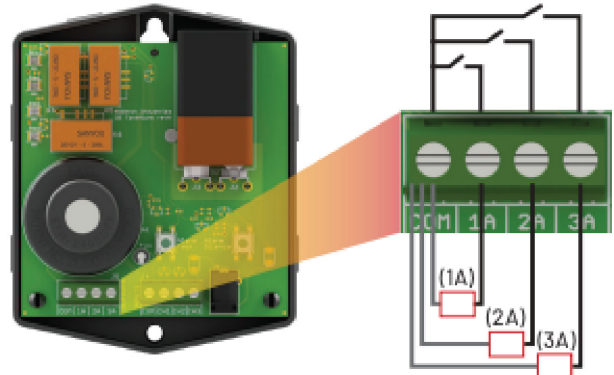

Figure 6
- If connecting to an existing alarm security system or building automation system (BAS), use 18 gauge 2-conductor wire to connect the existing product to the OUTPUTS terminal block on the Oil Detection System alarm panel (Fig. 6). See below for wiring information. The auxiliary contacts of the alarm panel are activated when the Oil Detection System control panel's circuit board auxiliary contacts are "closed" during an